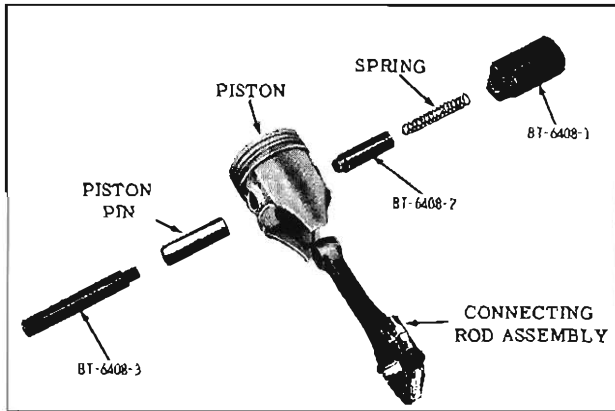

Fig. 3-435 Tool BT - 6408
1. Place spring, Tool BT-6408-5, and guide stop Tool BT-6408-2 in main body Tool BT-6408-1. (Fig. 3-435)